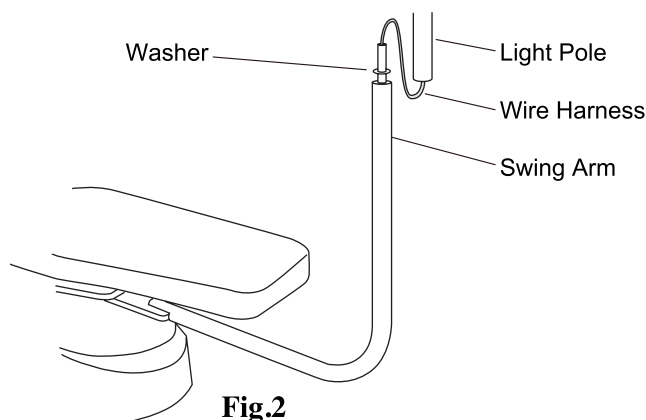
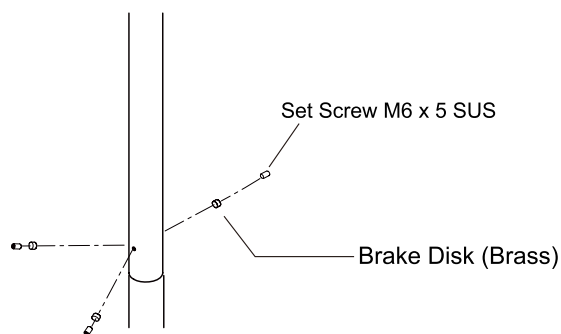

Fig.2
Fig.3
- (3) Feed the light assembly wire harness through the swing arm and pull the end of the harness from the lower end of the swing arm. Mount the light pole onto swing arm (Fig.2). Insert the brake disks, set screws in to the light pole and adjust the brake with set screws (Fig.3).